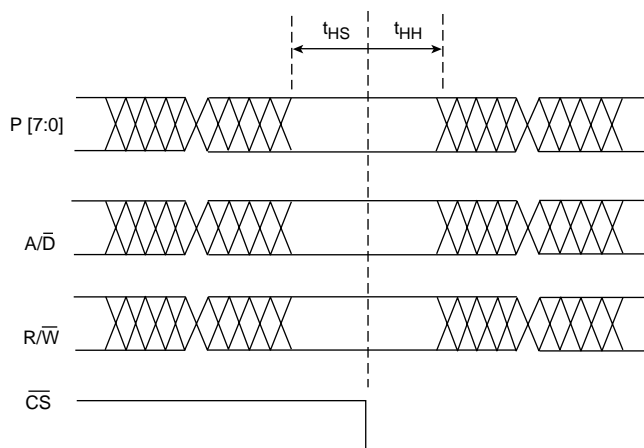

Fig. 14a HOSTIF Parallel Port Input Setup & Hold Times
- B) Signals are "strobed" into/out of the parallel port on the falling edge of the CS signal. Setup and hold times, as defined in the AC timing tables, are relative to this edge and must be met (see Figure 14a)